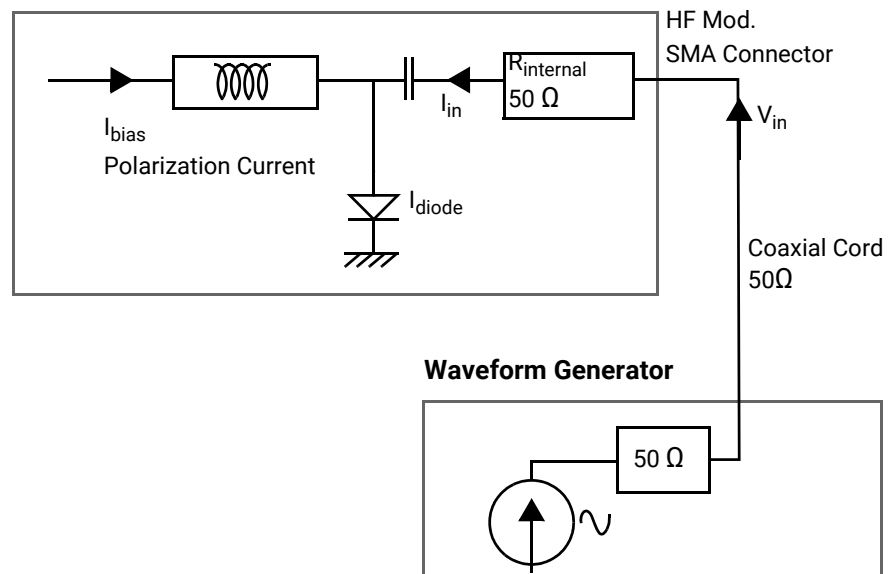

Figure 10: High frequency modulation setup
1. Connect an external high frequency modulation source to the **HF Mod**. SMA connector, as shown in the following *Figure 10*, p. 46.